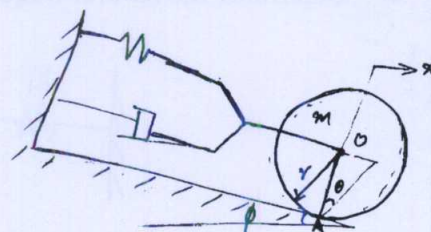

Fig.Q.3(b)
- b. Obtain the differential equation governing the motion of the one degree of freedom system shown in Fig.Q.3(b). Also determine the undamped natural frequency of the system. (10 Marks)